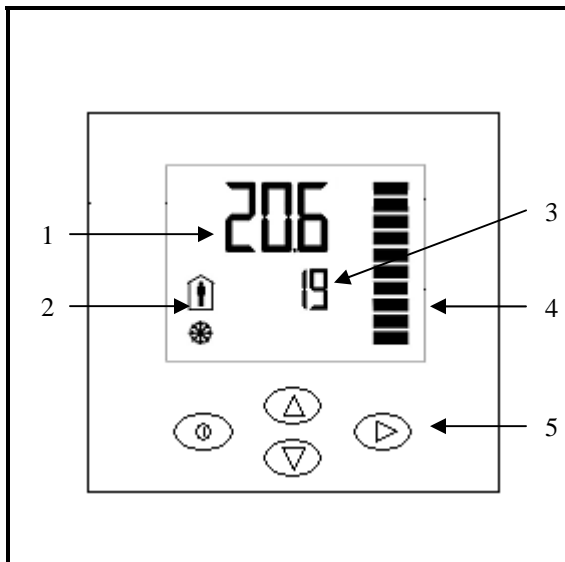

Figure 1. Humidistat LCD Display
A. Legend for Figure 1.
- (1) Display of current humidity value.
- (2) Snowflake indicates that outdoor temperature setback for winter compensation is in effect.
- (3) Setpoint display.
- (4) Graphical display of output value with increments of 10%.
- (5) Buttons for operating the humidistat: